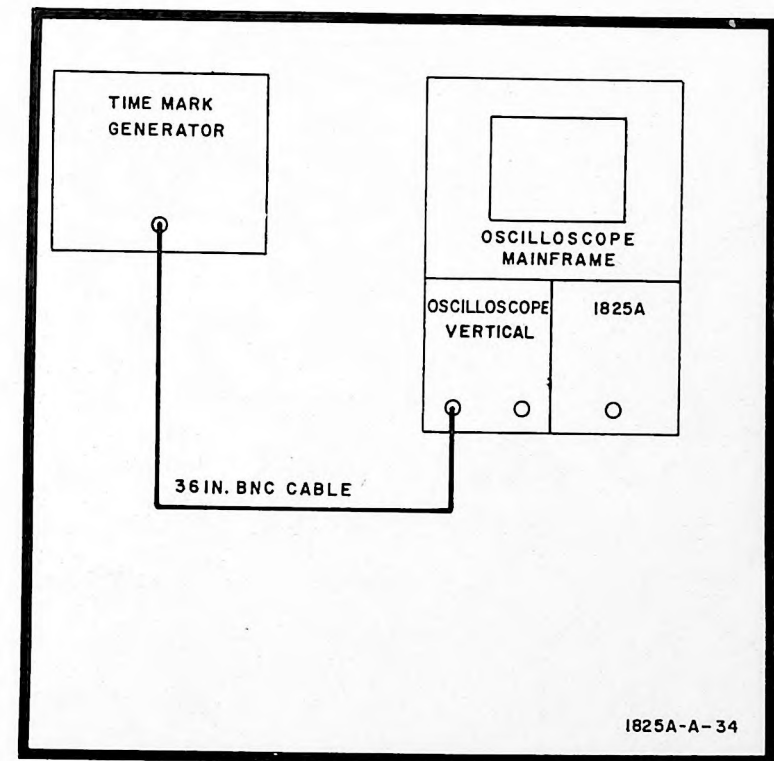

Figure 5-8. Sweep Calibration Test Setup
5-84. REFERENCE. Table 5-1, figures 5-8, 5-9, and schematic 6.
a. Connect equipment as shown in figure 5-8.
5-87. REFERENCE. Tables 5-1, 5-7, figures 5-8, 5-9, and schematic 7.